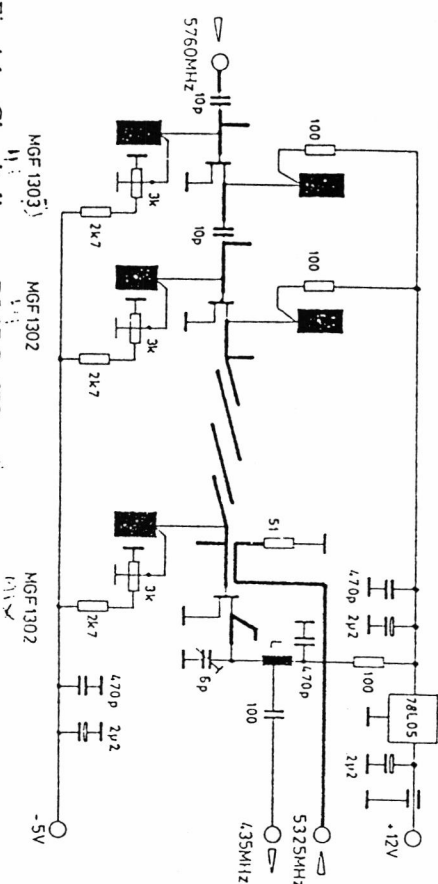

Fig.4.1 Circuit diagram DL1RQ 670
The receiver module (fig. 4.1) contains a two-stage preamplifier with transistors MGF1303 and MGF1302. Following is a two-pole stripline filter for selecting the receive frequency of 5670MHz. The mixer stage is realised with an MGF1302 transistor and in this form is already proven in the writer's 10GHz concept (5). The noise measurement of the receive module remains constant at 1.5dB from 1mW oscillator loading to above 10mW.